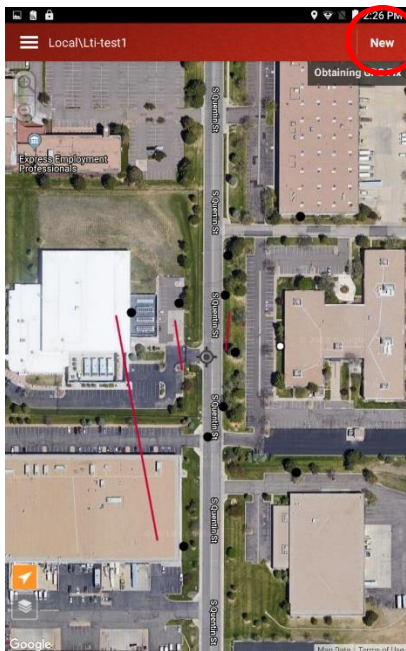

Figure 9
9. Open a Project and select **New** at the upper right (Figure 9)